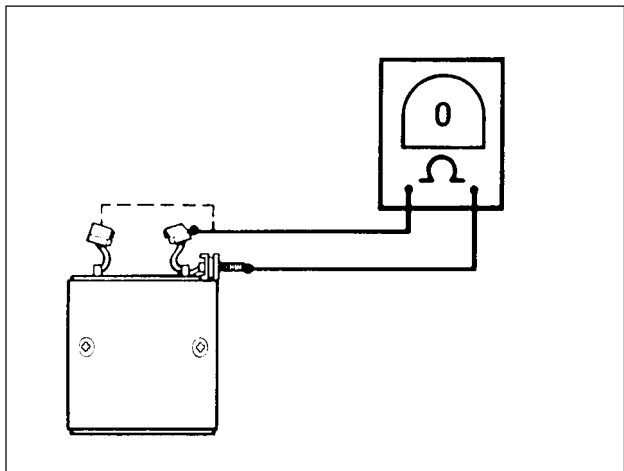

Figure 5-15. Open Field Test
14. See **Figure 5-15**. Check for OPEN FIELD WINDING with an ohmmeter or continuity tester. Touch one probe to the field wire, and the other probe to each of the brushes attached to the field coils. There should be continuity. If there is no continuity at either brush, the field winding(s) are open and the field frame should be replaced.